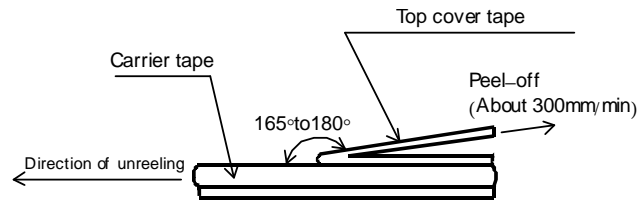
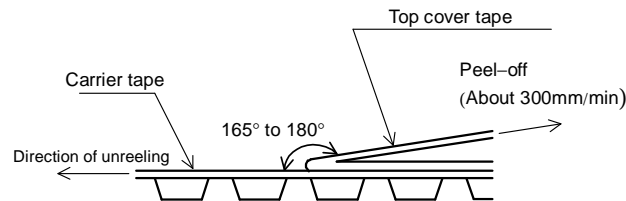

Figure-8
Figure-9
- 5). The peel strength of the top cover tape shall be within 0.1N to 0.5N on the test method as shown in the following RLP16, 20, 32, MLP20, 32: Figure-8, RLP63, MLP63: Figure-9.